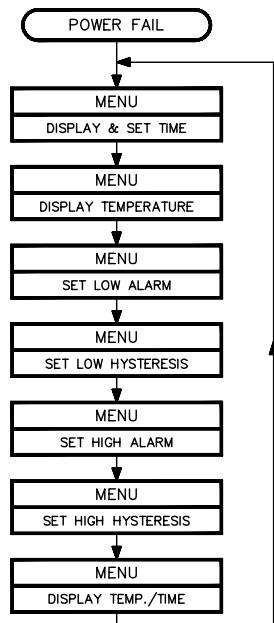

FIG. 8.0
**Sequence of the menus (see also fig. 8.0) :**